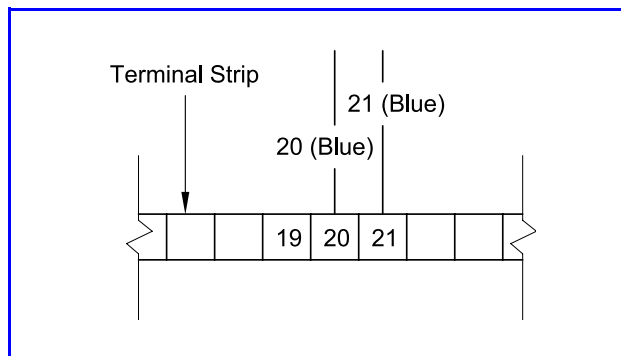

Figure 17 *Wiring Connection for Current Mode of Operation*
2. Locate Terminals No. 21 and No. 20 on the terminal strip. See **Figure 17**.